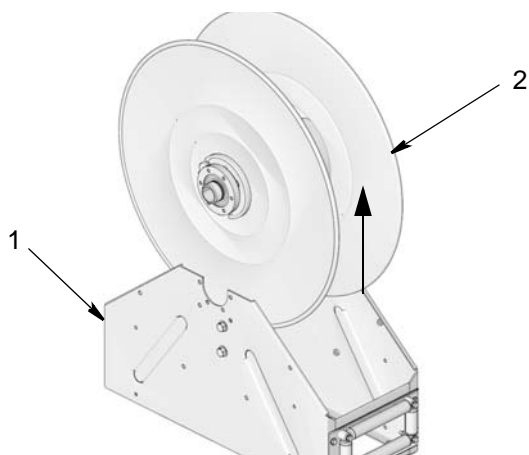

FIG. 17
18. Lift up spool (2) to remove it from base (1) (FIG. 17).